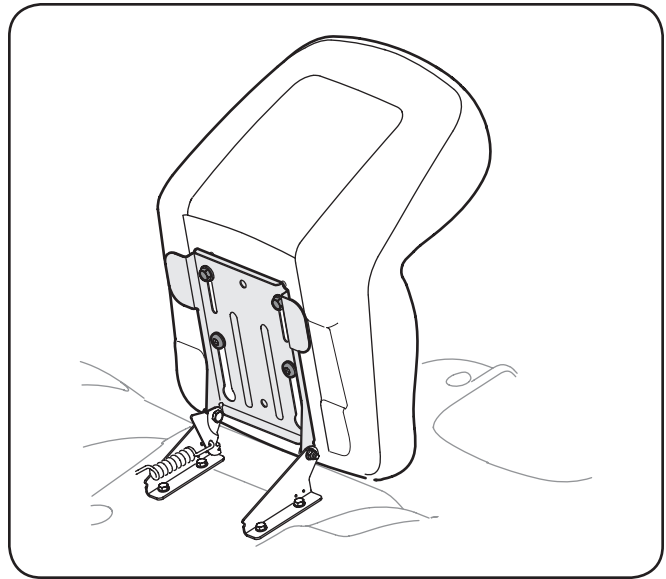
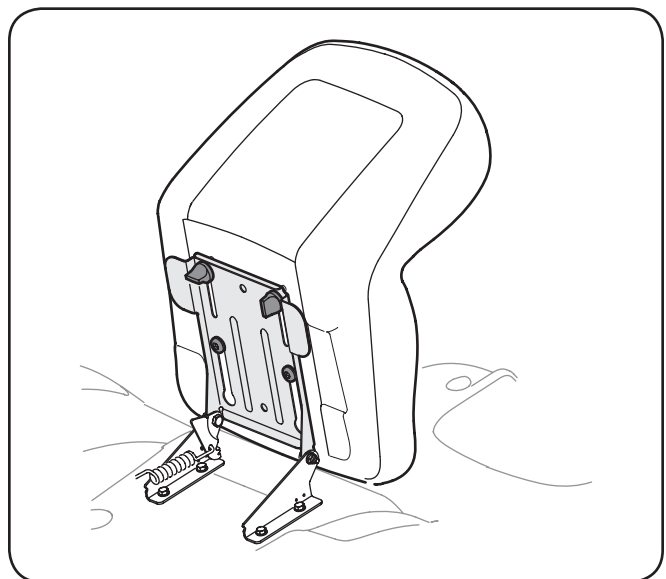
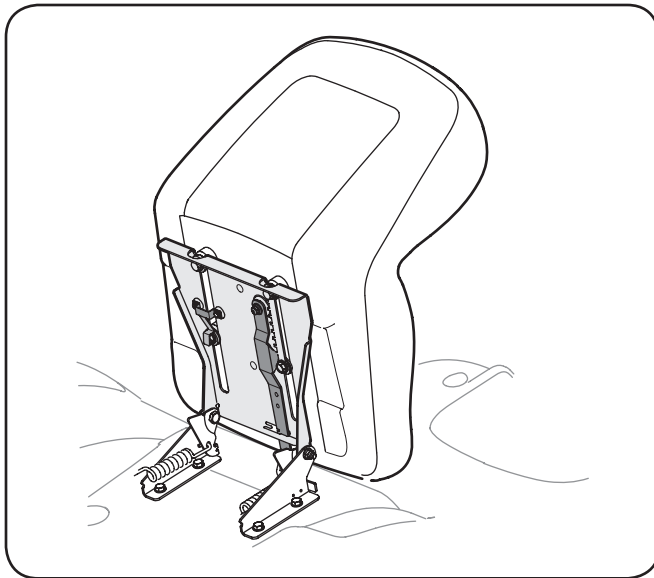

Figure 3-4
Figure 3-5
Figure 3-6
If the seat for your tractor was not attached at the factory, refer to Fig. 3-4, Fig. 3-5, and Fig. 3-6 to identify your tractor’s seat style and follow the applicable instructions below to attach it.
1. Position the shoulder screws (found on the base of the seat) inside the slot openings in the seat pivot bracket. Fig. 3-4.
3. Select desired position for the seat, and secure with the two hex screws removed earlier. See Fig. 3-4.
1. Position the shoulder screws (found on the base of the seat) inside the slot openings in the seat pivot bracket. See Fig. 3-5.
- Select desired position for the seat, and secure with the two knobs removed earlier. See Fig. 3-5.
NOTE: If your seat was shipped mounted backwards on the seat pivot bracket, pull out the tab found on the seat stop and hold it open while sliding the seat off the seat pivot bracket. See Fig. 3-6.
- Slide seat in until front seat spacer engages the seat stop. See Fig. 3-6.